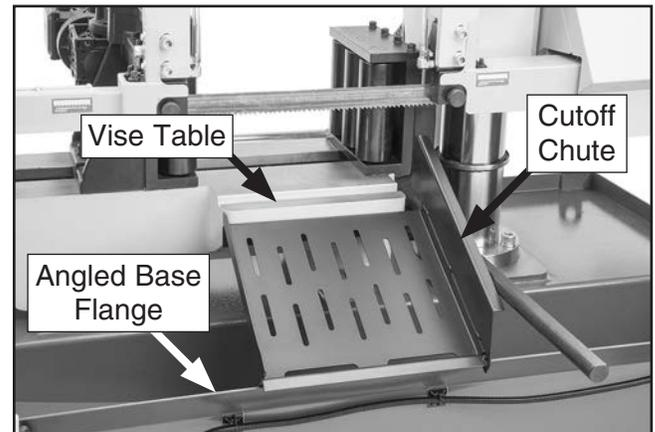

Figure 17. Cutoff chute positioned.
4. Position cutoff chute between vise table and angled base flange, as shown in **Figure 17**.